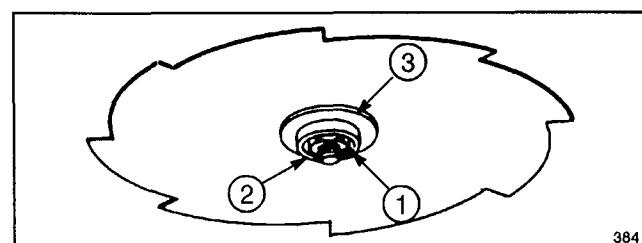

Figure 3
## INSTALLING OPTIONAL CUTTER BLADE (Figs. 3 & 4)
5. Insert cotter pin through hole in shaft and wrap ends around shaft (Fig. 3).
- If cotter pin is missing or damaged, replace it. Insert new cotter pin through hole in shaft and wrap ends around shaft (Fig. 3).